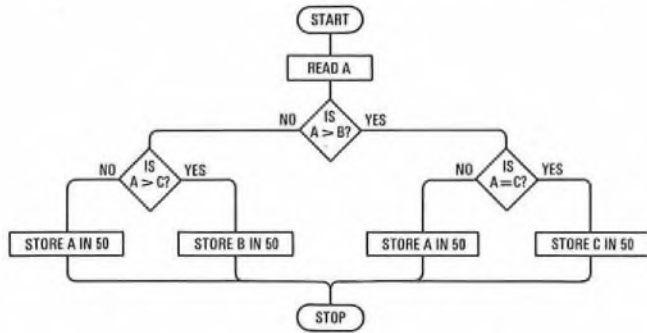

Fig. 1
Q. 7. (a) Consider the flow chart shown in Fig. 1. Devise a machine code of your own choice, and write a program to perform the flow chart's function. The values of A, B and C can be found in locations 64, 65 and 66, respectively.